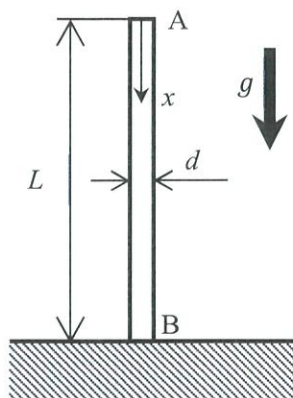

Figure 1-3
- (1) As shown in Figure 1-3, the bar is placed on the horizontal floor vertically. Obtain the normal stress on the cross-section at the distance  $x$  from the upper end A.